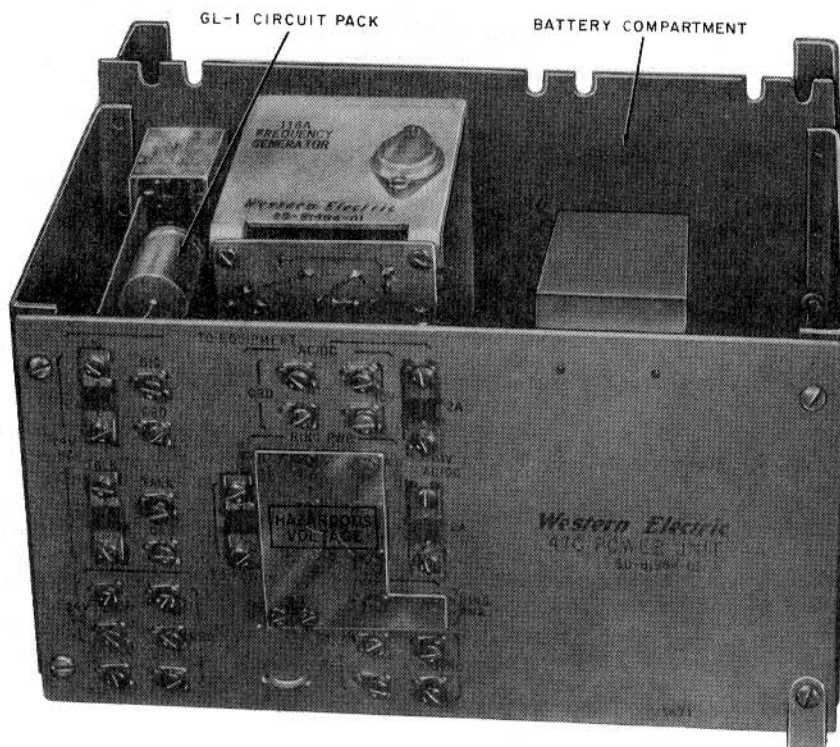

Fig. 1—47C Power Unit
1.01 The 47C power unit (Fig. 1) provides emergency power to maintain talk and signal voltages, lamp voltages, and ringing voltage in key telephone systems during commercial power failures.
3.08 Ensure that power unit is properly fused. See Table A and Fig. 1 for fusing.